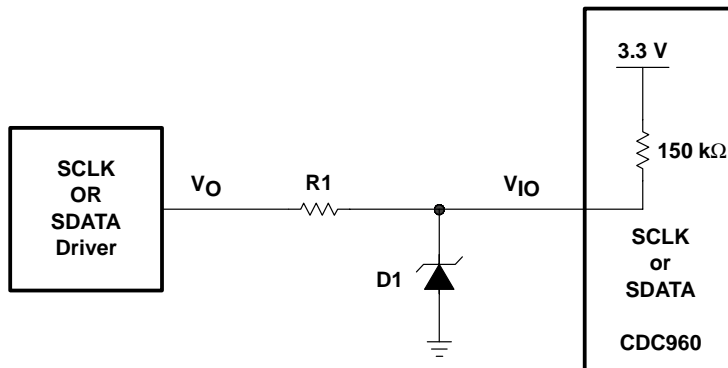
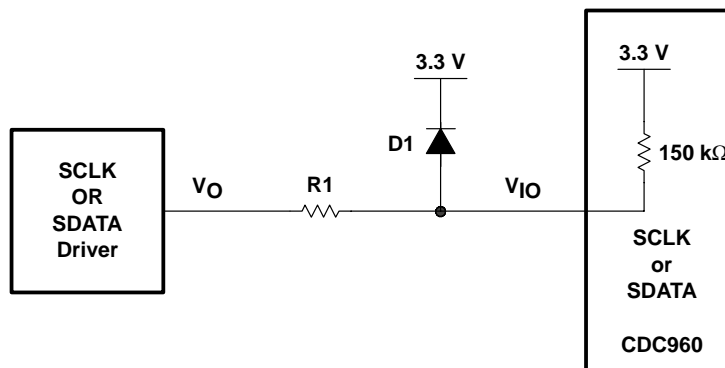

Figure 1. SCLK SDATA Connection to 5-V SMBus Using Zener Diode
Figure 2. SCLK SDATA Connection to 5-V SMBus Using Clamping Diode to V_{DD}
Zener diode D1 in Figure 1 is chosen such that the Zener voltage (V_{ZK}) cannot exceed 300 mV above V_{DD} of the CDC960. The minimum value of V_{ZK} must be greater than 2.1 V to meet minimum requirement for V_{IH} of the CDC960. The value of R1 is chosen to satisfy requirements both for I_{OH} of the driver of SCLK and SDATA and for V_{OL} and I_{OL} of SDATA of CDC960.
Diode D1 in Figure 2 should have a small forward voltage (V_F). Ideally, we want V_F to be less than 300 mV to meet the input voltage requirement of the CDC960. International IOR Rectifier has a device (part number 10BQ015) with maximum V_F of 350 mV at 1.0 A. Using the 10BQ015 with $R1 = 150\ \Omega$, the worst-case I_{OH} is calculated using equation (4).
When using the configuration in Figure 2, the power supply is required to have a capability of sinking current. The total amount of sinking current is dependent on the overall load connected to that power supply.
Using the above interface circuitry with a high-impedance source, the available high-level voltage on the SMBus is limited to about (V_{zk}) for the configuration in Figure 1 and $(V_{DD}(\text{CDC960}) + V_F(\text{D1}))$ for the configuration in Figure 2. One has to choose which option best fits a given SMBus configuration.
Actually, the typical SMBus configuration is an open-drain configuration with pullup resistors to the corresponding power supply. It does not require a 5-V SMBus driver that has a low impedance to drive the CDC960 SMBus ports with its additional components as shown in Figure 1 and Figure 2. The external components are not needed if the pullup resistors of the SMBus are directly connected to a voltage equal to the supply voltage of the CDC960 (typically 3.3 V). This pullup resistor connection is strongly recommended.